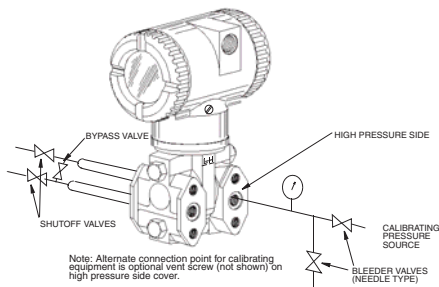

Figure 33. Field Calibration Setup
To set up the equipment, refer to Figure 33 and use the following procedure.
- Complete the setup shown in Figure 33.